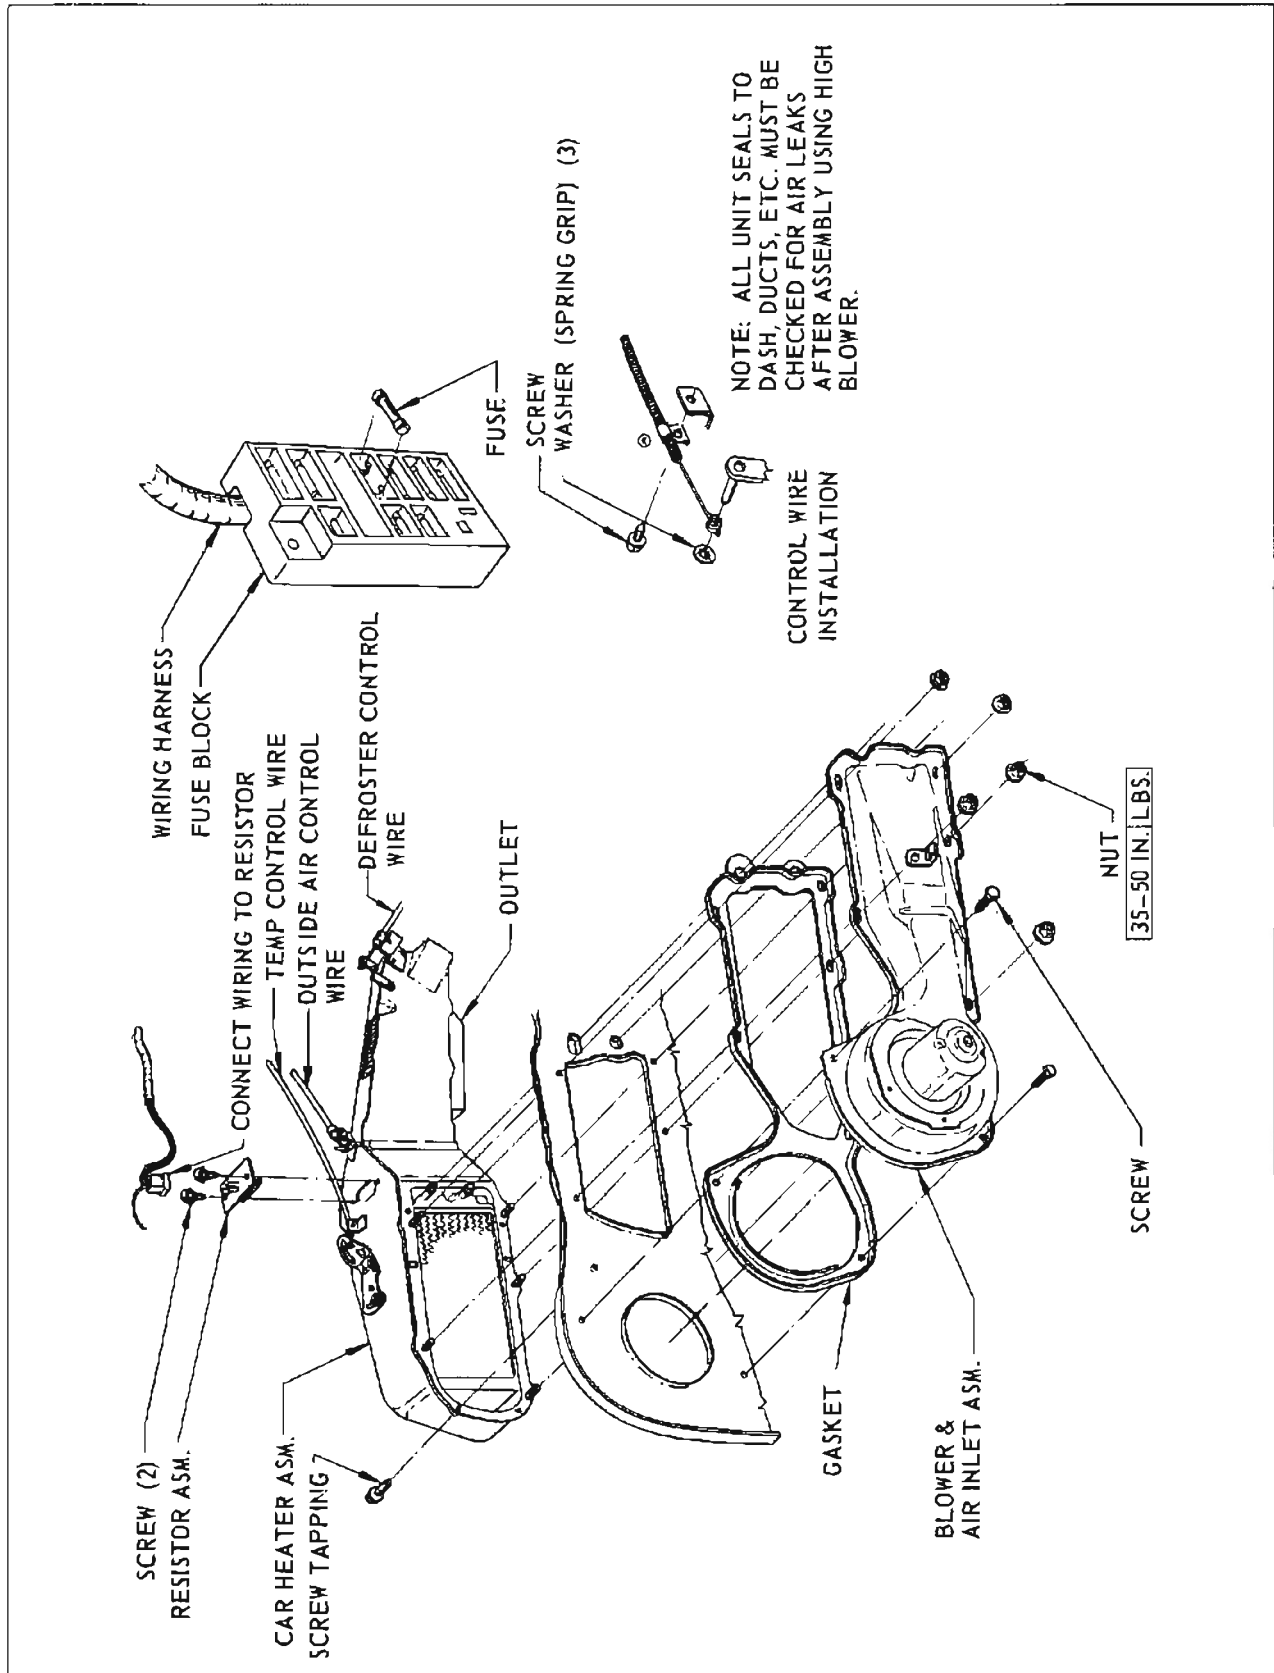

Figure 11-17—Heater Installation - 4000, 4100 and 4300 Series
2. Disconnect blower motor wire, remove five nuts and washers, and two screws holding blower and air inlet assembly to cowl (see Figure 11-17) and take out assembly.